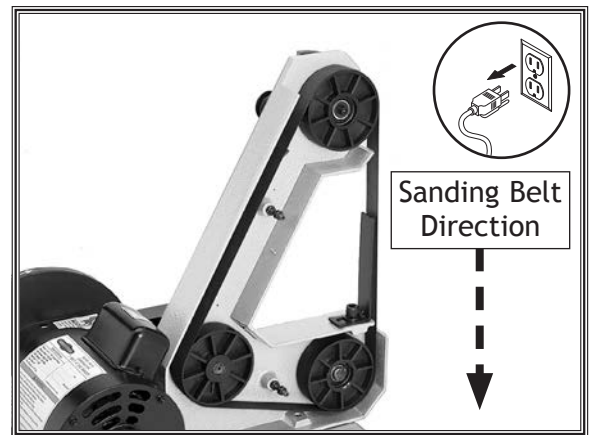

Figure 30. Sanding belt cover and table removed to expose pulleys.
2. Unscrew knobs securing sanding belt cover and remove cover (see **Figure 30**).